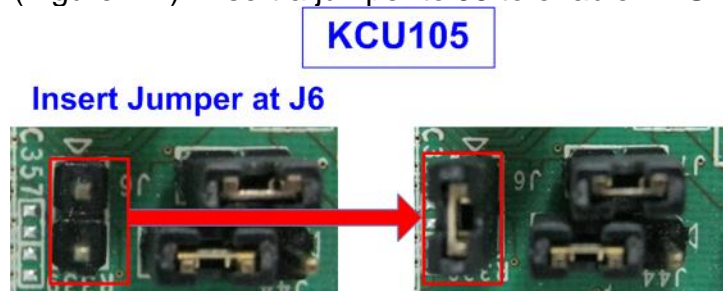

Figure 2-2 Insert jumper to enable SFP+ on KCU105
- b) KCU105 Boar (Figure 2-2): Insert a jumper to J6 to enable Tx SFP+.